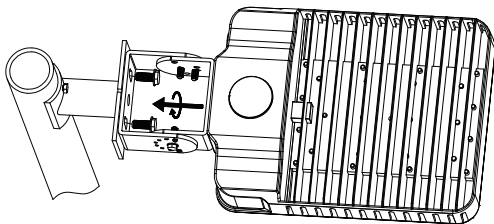

FIG. 11
- Tighten the fixture to the tenon pole or tenon adapter by two M12 bolts (see **FIG.11**).